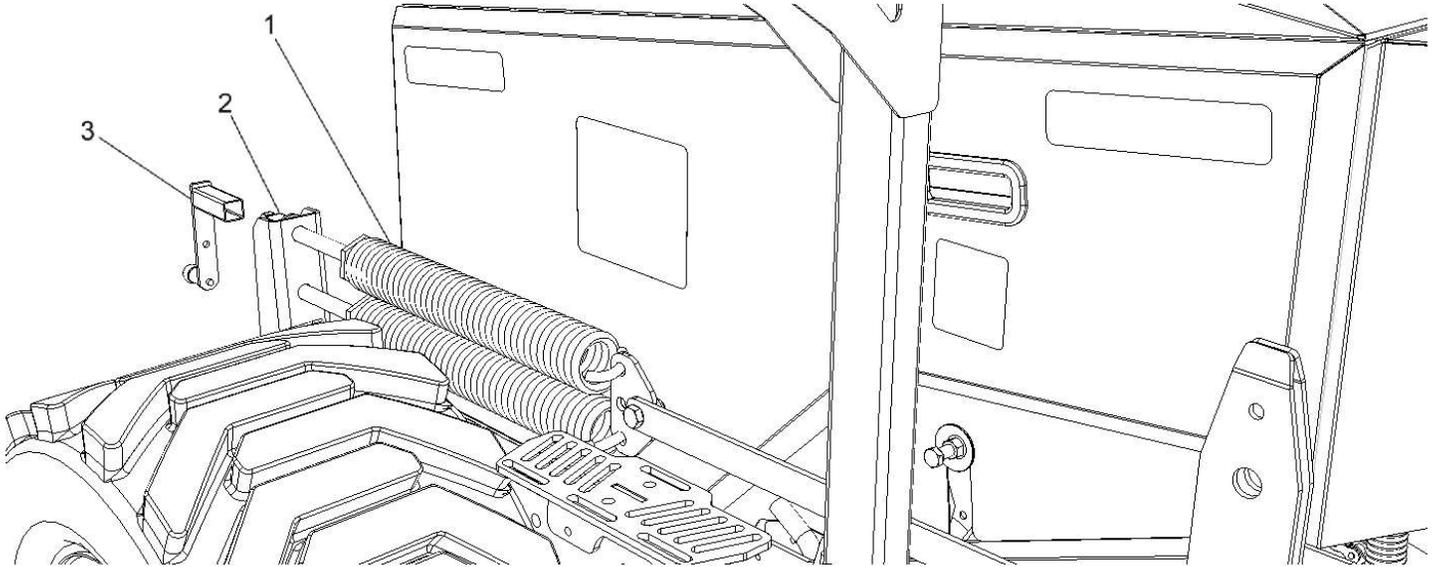

Figure 60 Header lift springs
HEADER SUSPENSION**STEP 1 - FIGURE 60**
The suspension springs (item 1, Figure 60 Header lift springs) function is to control the header ground pressure. In general, the tension must be set to result in a weight of about 35 kg (75 lb) at the front of the header. The spring adjustment varies from one header to another.
STEP 3 - FIGURE 60